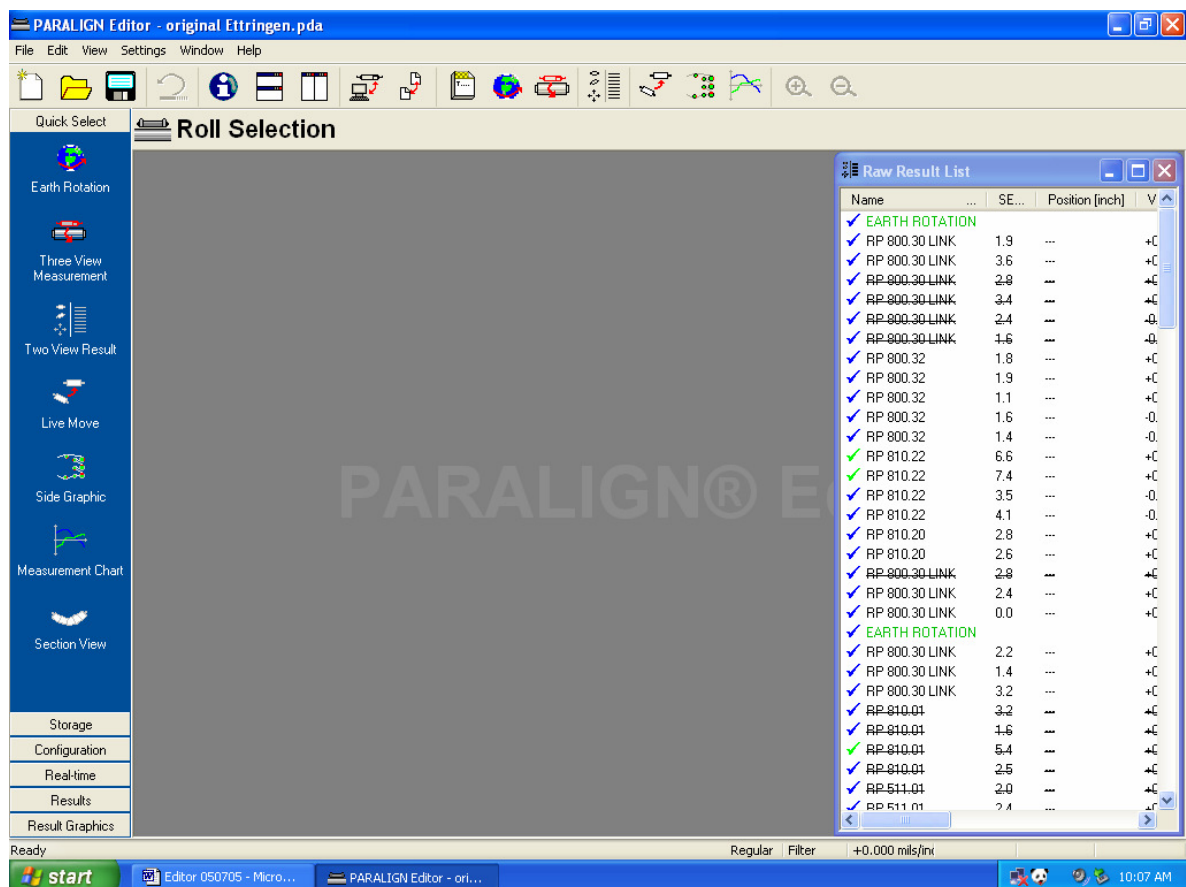

Figure 69
- Close “roll selection” (left window) and “realtime view” (middle window). The following screen (Figure 69) will be shown: